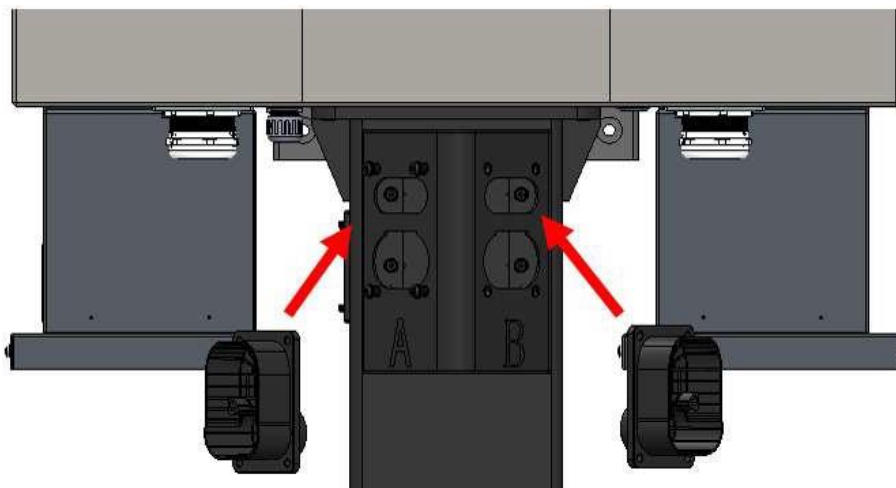

Figure 34 Installation diagram of connector holder
(6) Fix the connector holder with 4 M5× 20 bolts screws on the pole, as shown in Figure 34.